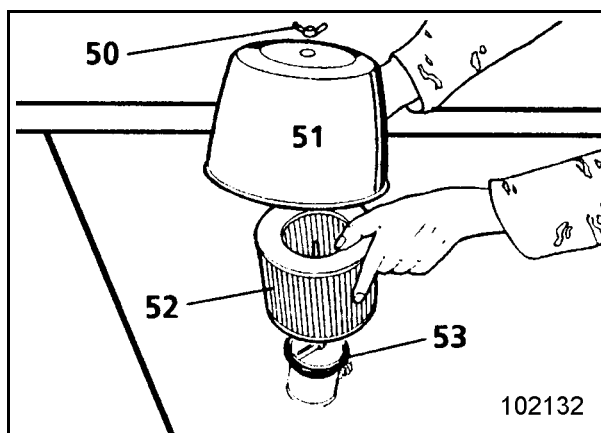

Fig. 3-54:
- Unscrew butterfly nut (50, Fig. 3-54:). Withdraw hood (51) and withdraw filter element (52) from the holding rod.
- Insert new sealing ring (53) and new filter element and secure hood (51) with nut (50).